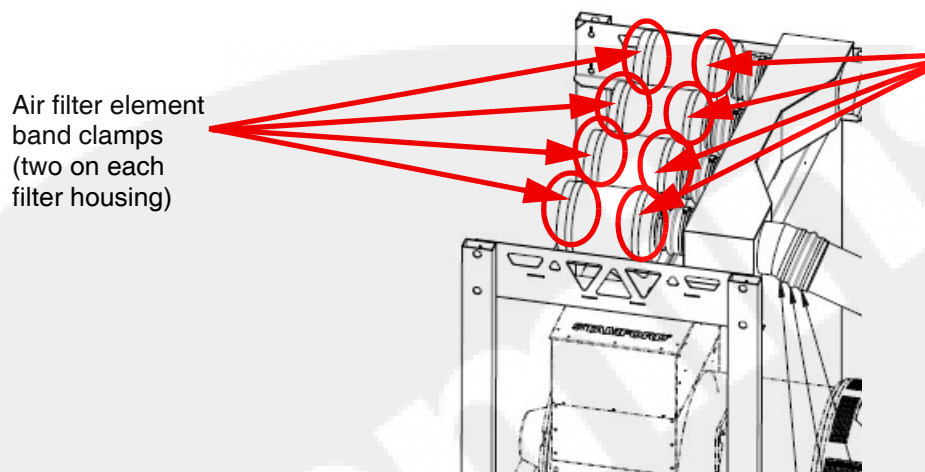

Figure 7-34 Air filter band clamps (GenSet right side)
2. Loosen the two band clamps around each metal housing (shown in Figure 7-34).